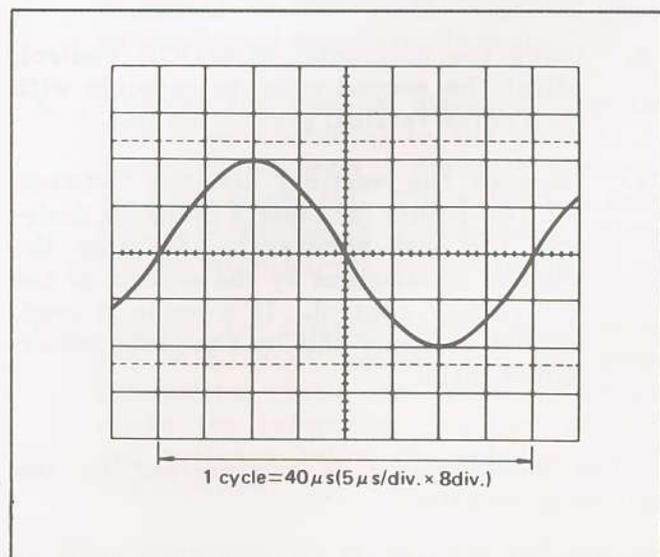

Fig. 8. Frequency Measurement.
(Refer to Fig. 8)
1. Set up the oscilloscope to display one cycle of waveform (see Fig. 8).
In the example shown in Fig. 8, a period of 40 μs is observed. Substituting this value into the above equation, the frequency is calculated as follows: